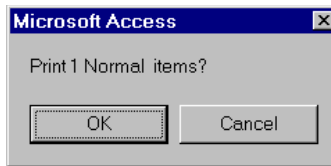

Figure 3-22
4. Click **OK** as prompted (Figure 3-22) to print the mail item.